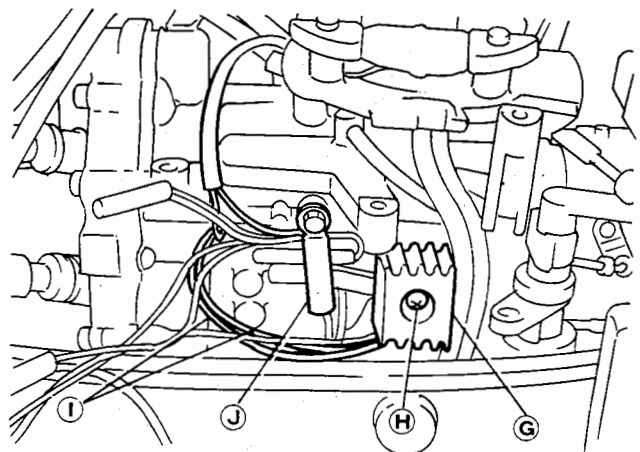

Fig.13.8
10) Install rectifier (G).
To install, face the cord side down and secure rectifier (G) to the crankcase using panhead screws (H) (P520) and nuts. Secure the ground lead wires (black) of the rectifier and stop switch to the back of the rectifier. Route rectifier lead wires (I) (yellow and white) as shown in the figure, connect to alternator lead wires (9) and (E), and secure them together with ground cable (black) of the stop switch, by clamps (J). (Fig.13.8)